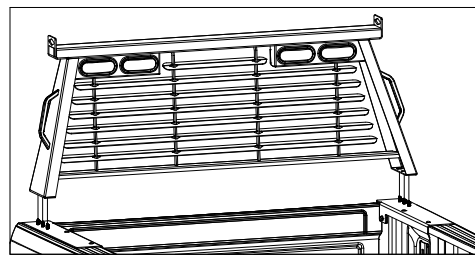

Figure C1: View looking at back of truck.
1. **Mount Cab Protector.** Position the slots on the bottom of the cab protector over threaded studs on the bed protectors, see Figure C1. Fasten the cab protector with the provided 3/8" Large flat washers, lock washers, and finish nuts. Before fully tightening, make sure the cab protector is centered with the truck as viewed from the rear. Then tighten the 6 nuts on the cab protector to 20 ft-lbs. Do not overtighten.